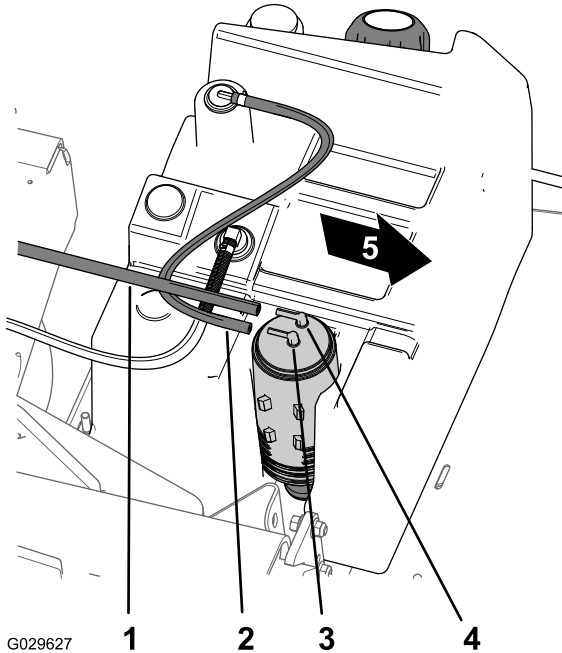

Figure 43
- Remove the vacuum hose from the fitting on the carbon canister marked Purge (Figure 43).
- Remove the fuel-tank hose from the fitting on the carbon canister marked Fuel Tank (Figure 43).
8. Assemble the vacuum hose onto the fitting on the carbon canister marked Purge and the fuel-tank hose to the onto the fitting marked Fuel Tank (Figure 43).